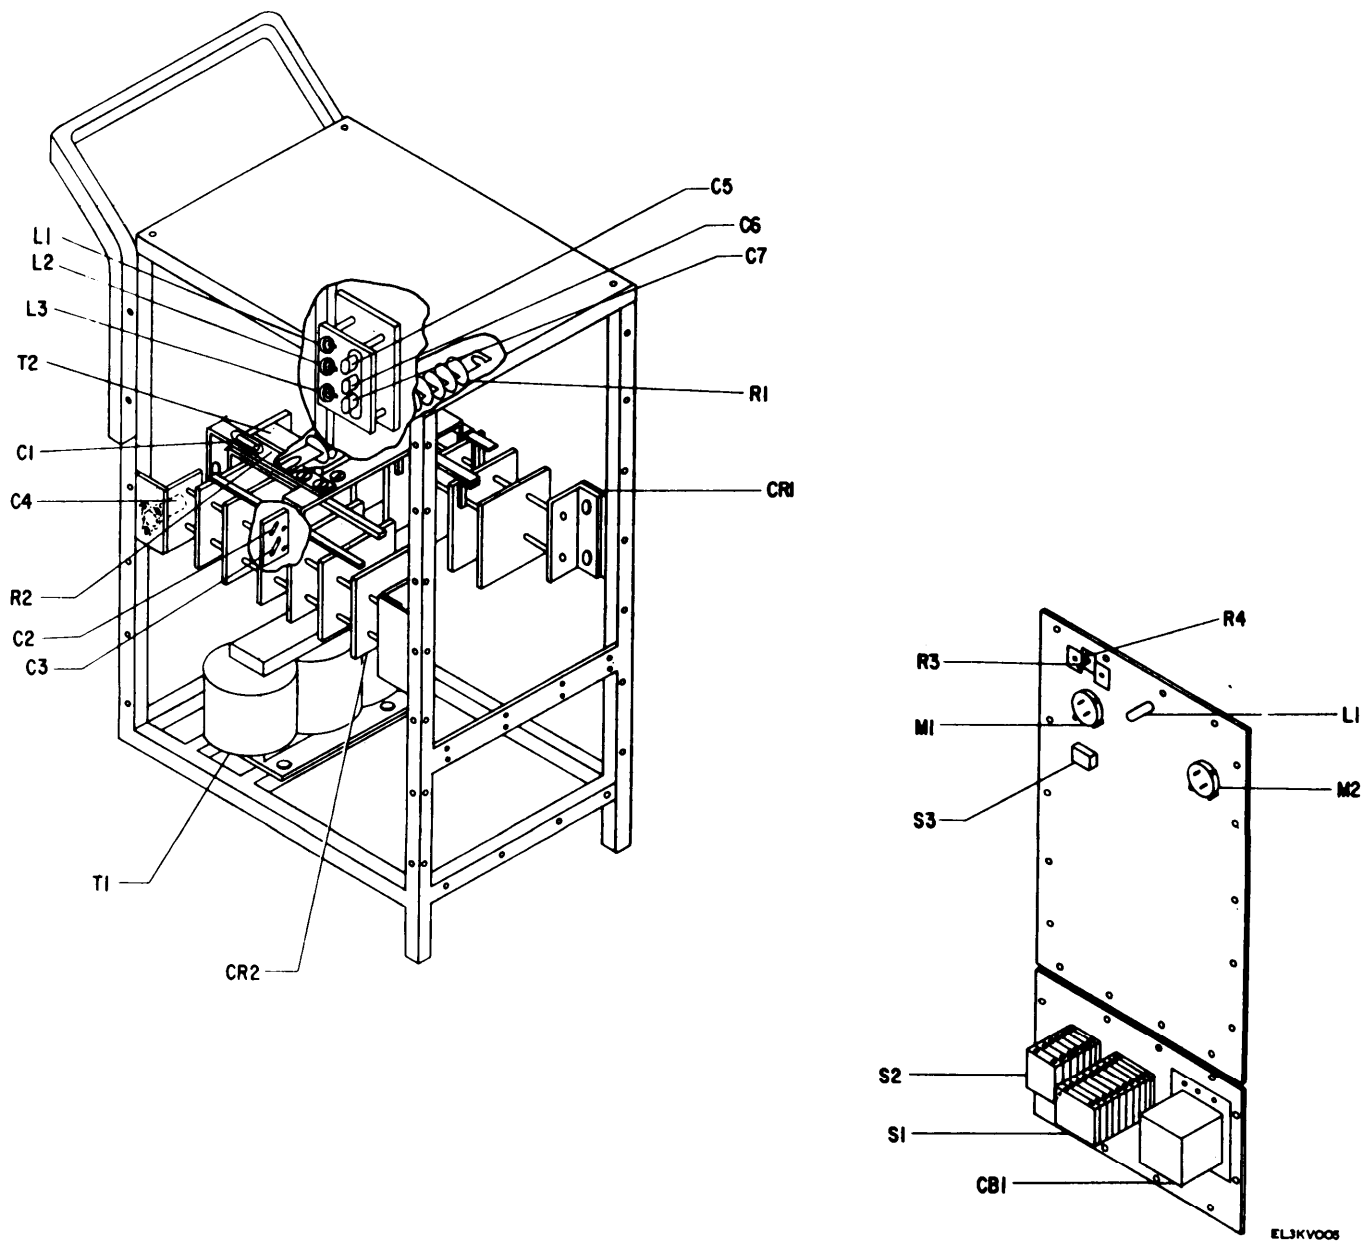

Figure 5-1. Power Supply PP-4606C/U Parts Location Diagram
a. General. In the troubleshooting chart (d below), procedures are outlined for localizing troubles and for isolating troubles within the various circuits of the power supply. Refer to figure 5-1 for parts locations. Refer to the schematic diagram (fig. FO-1) to identify the circuit components. When trouble has been localized to a particular circuit, use voltage and resistance measurements to isolate the trouble to a particular part.
b. Use of Chart. When an abnormal symptom has been observed in the equipment, look for a description of this symptom in the Symptom column and perform the corrective measure shown in the Corrective Measures column. If no operational symptoms are known, begin with item 5 of the operator's preventive maintenance checks and services chart (para 3-4) and proceed until a trouble symptom appears.